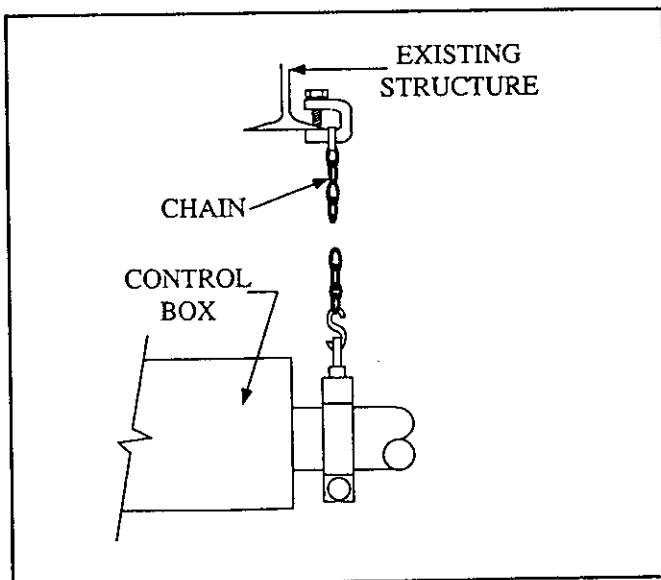

Figure 1-6
2. Use of number 3 double-loop chain is recommended for heater hanging (DTH accessory No. DTH-CS). See Figure 1-6.